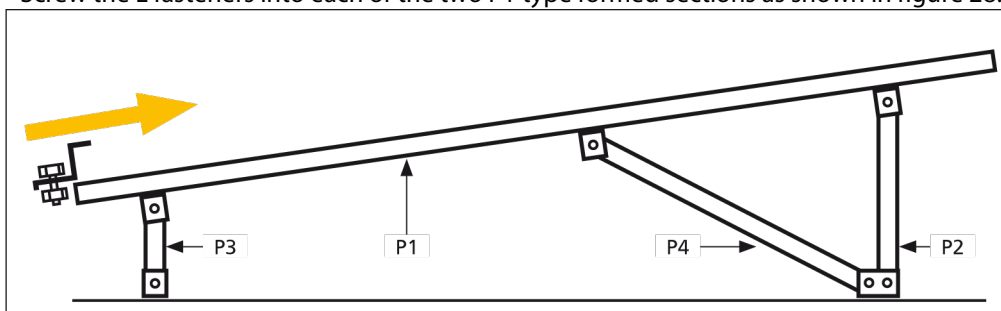

Figure 28
- Screw the L fasteners into each of the two P1 type formed sections as shown in figure 28.